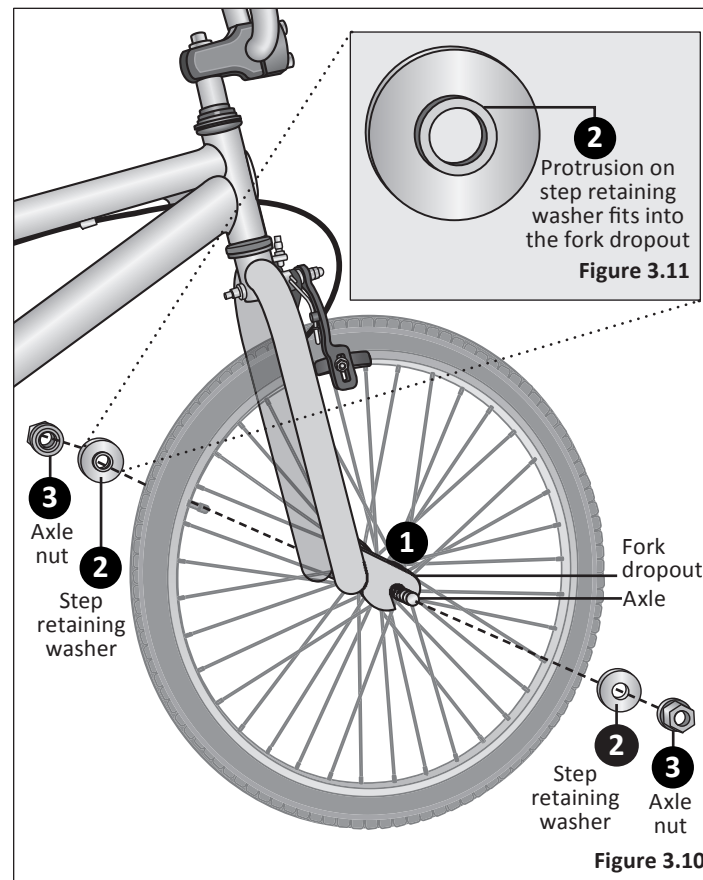

Figure 3.10
- 1 Position the front wheel between the front fork legs with the axle resting inside the fork drop outs. **Important!** Be sure the wheel is as *centered* as possible between the fork legs. **Figure 3.10**